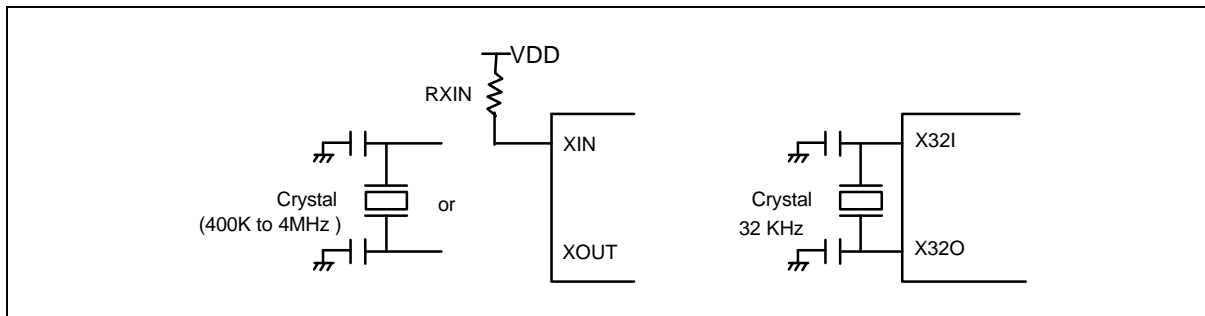

Figure 3. Oscillator Configuration
The W533X2 provides two oscillation circuits- main-oscillator (FM) and sub-oscillator (FS). The SCR (System Control Register) uses to select clock operation condition. Either main-oscillator or sub-clock can be the system clock (FOSC) by F32IN option bit (bit 0 of SCR special register) . The main-oscillator starts oscillation if FMEN (bit 1 of SCR) is written to 1. Main-oscillator can select crystal or RC oscillation by special register FMRCB bit (bit 2 of SCR) through external connections. If a crystal oscillator is used, a crystal or a ceramic resonator must be connected between XIN and XOUT, and a capacitor must be connected if an accurate frequency is needed. The oscillator is range form 400 KHz to 4 MHz. A 455 KHz ceramic resonator can be selected if a IR carrier output from RE3/TONE is needed. If the RC oscillator is used, a resistor must be connected between XIN and VDD. The sub-oscillator must be connected to a 32.768 KHz crystal between X32I and X32O. The connection is shown in Figure 3. One machine cycle consists of a four-state system clock sequence and can run up to 1 μ S with a 4 MHz system clock.